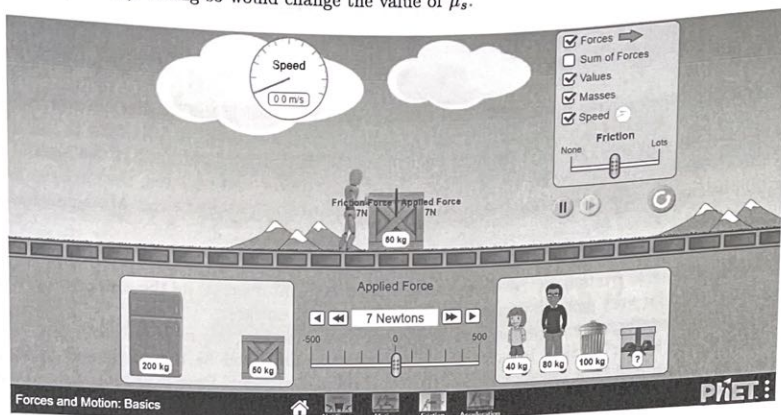

Figure 2: User interface window for studying friction.
- You will use the PhET applet "Friction" found here to measure the coefficient of static friction μ_s between a wooden crate and the horizontal surface shown in Fig. 2. The applet allows you to apply a horizontal force on the crate in increments as small as 1 N. In this exercise, you should NOT move the scroll bar for friction (in the upper right box). Doing so would change the value of μ_s .